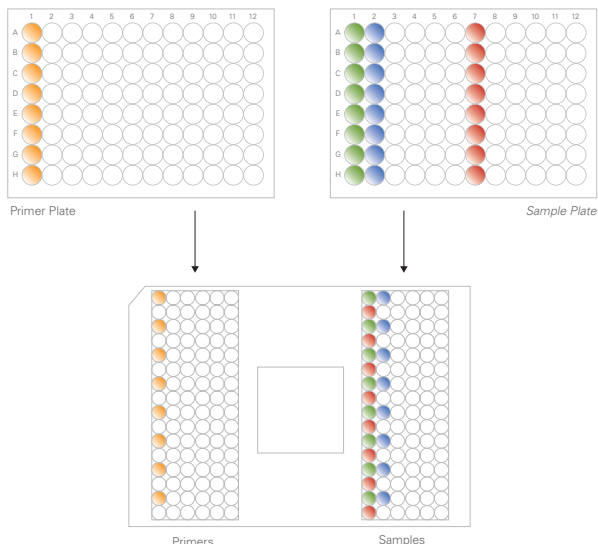

Fig 3. Loading of primers and samples to the 96.96 Dynamic Array IFC.
31. Gently remove the Primer Plate sealing to avoid contamination between wells. Transfer 5 μ L from each well of the Primer Plate to the primed 96.96 Dynamic Array IFC by using reverse pipetting. Change pipette tips after each primer. Primers are loaded into their respective inlets on the left side of the chip according to Figure 3.
32. Transfer 5 μ L from each well of the Sample Plate into the inlets on the right side of the chip according to Figure 3 by reverse pipetting. Change pipette tips after each sample. See Appendix 1 for a detailed instruction on sample loading.